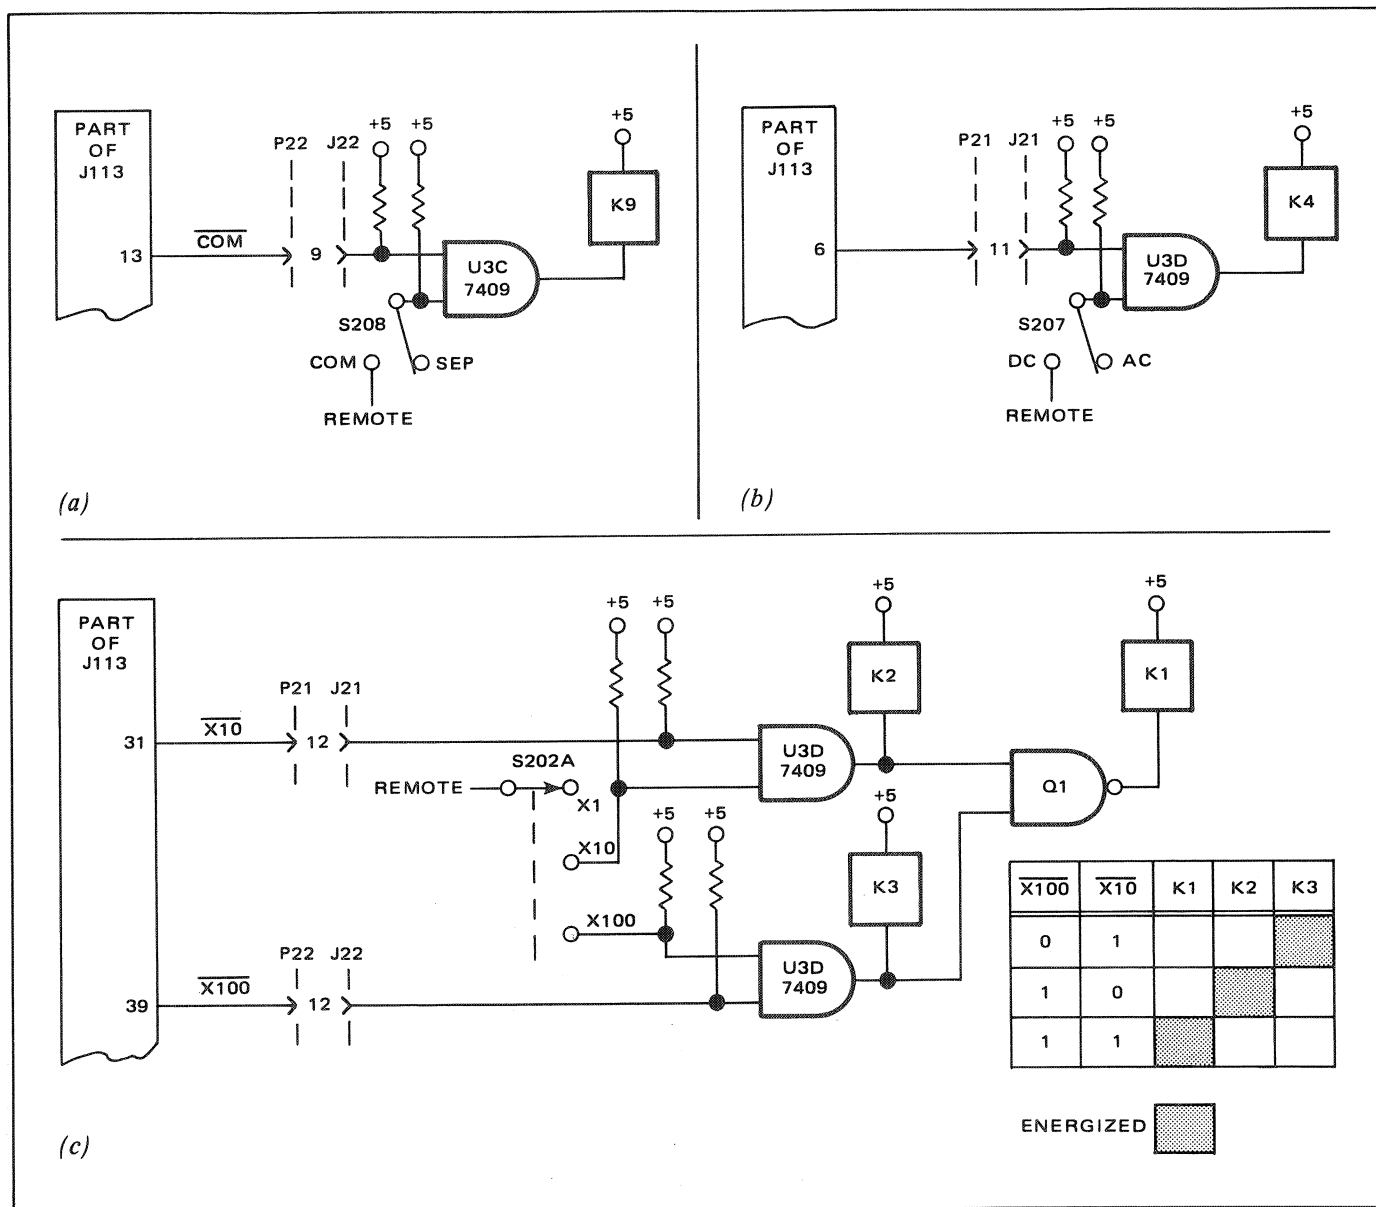

Figure 3.11 - Sep/Com, AC/DC Range Remote Inputs (009)
3.45 This circuit, shown in figure 3.11(a) uses an AND gate driving a relay (K9). With remote not selected REMOTE is at logic 0 and the remote COM line is at logic 1. When S208 is in the (SEP) position, the output of the AND gate is at logic 1 and the relay is not energized; when S208 is in the (COM) position the output of the gate is at logic 0 and the relay is energized. In remote operation, the
3.47 This circuit shown in figure 3.11(b) operates in the same manner as the Separate/Common circuit (paragraph 3.44). The circuit is remotely energized by a logic 0 on J113-6.
3.49 The range control circuitry, figure 3.11(c), consists of two AND gates (U3D), a NAND gate and three relays. In local operation, the REMOTE line is logic 0 and S202 is capable of pulling the X10 and X100 lines down. In remote operation S202A is inhibited and selection is through the remote lines J113-31 and J113-39. The input code for selecting each of the three relays is provided in the table.